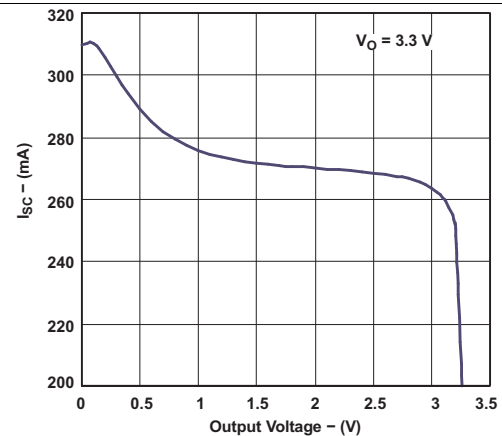

Figure 6. Short-circuit Current vs Output Voltage
(3) See Figure 6 in *Typical Performance Characteristics*.